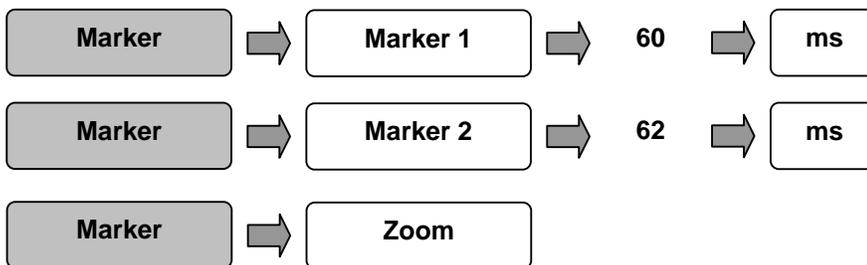

FIGURE 5.
- 10) To examine specific sections of the frame, use the Marker Zoom function. Make the following settings to zoom into the frame, beginning at 60 ms and ending at 62 ms. The results of these choices are shown in *Figure 5*.